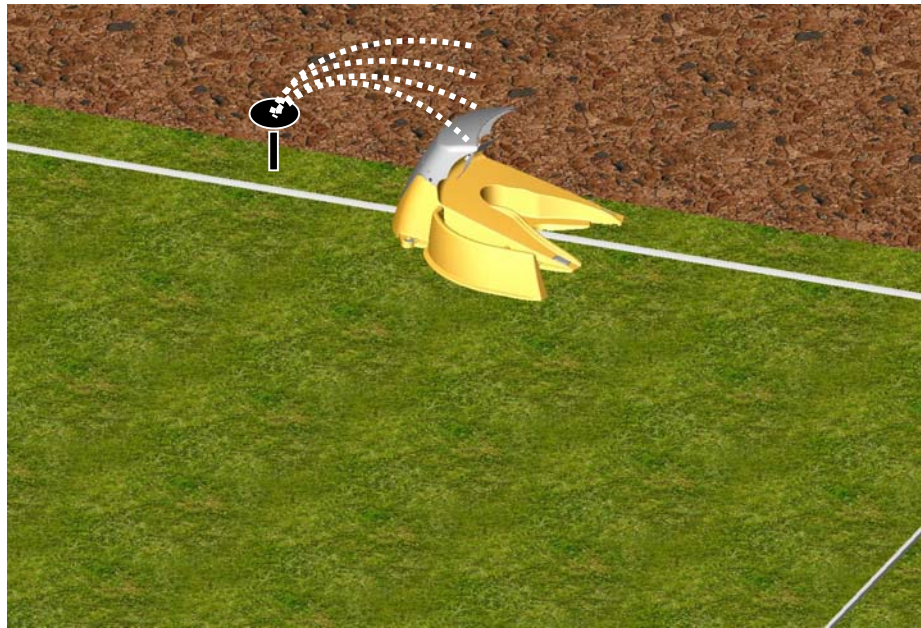

Figure 1.7 – Avoid Placement Near Water Sprinklers
- The Robomow is impervious to water and rain, however it is recommended to place the Docking Station away from sprinkler heads for maximum protection. See figure 1.7